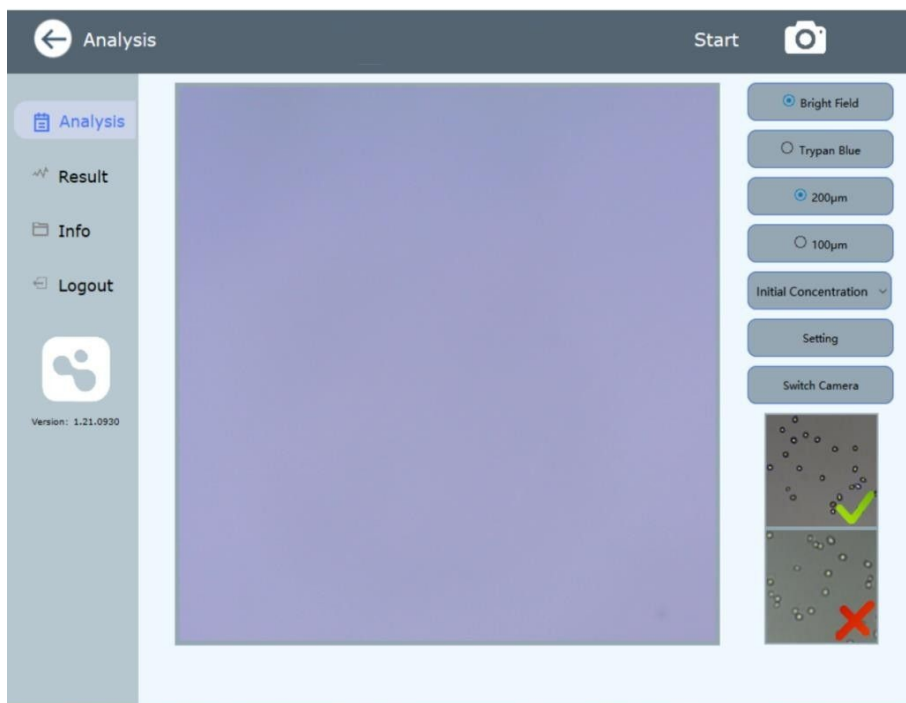

Figure 9 Cell image preview and counting mode selection
2. BCLC-301 has two counting modes: users can click “Analysis”, then select either “Bright Field” or “Trypan Blue” counting mode, and preview cell images (as shown in FIG. 9). The “Bright Field” mode only tag the living cells and counts the total number of living cells. The Trypan Blue mode can count the number of living cells, dead cells and calculate cell viability. Click “Start” to get the counting result in 2 seconds.